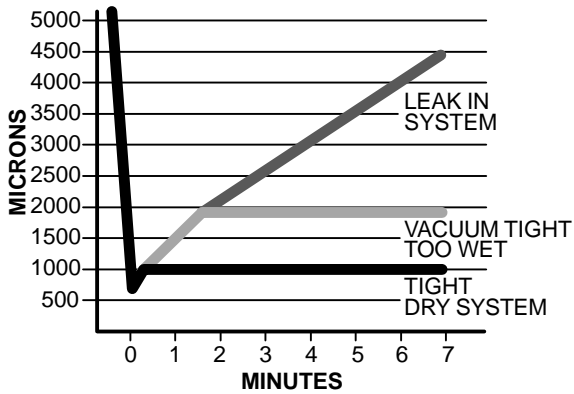

FIGURE 21 – Deep Vacuum
7. Evacuate using either the deep vacuum or the triple evacuation method (see Fig. 21 and 22).
The deep vacuum method requires a vacuum pump capable of pulling a vacuum of 500 microns and a vacuum gauge capable of accurately measuring this vacuum depth. The deep vacuum method is the most positive way of assuring a system is free of air and liquid water (see Fig. 21).